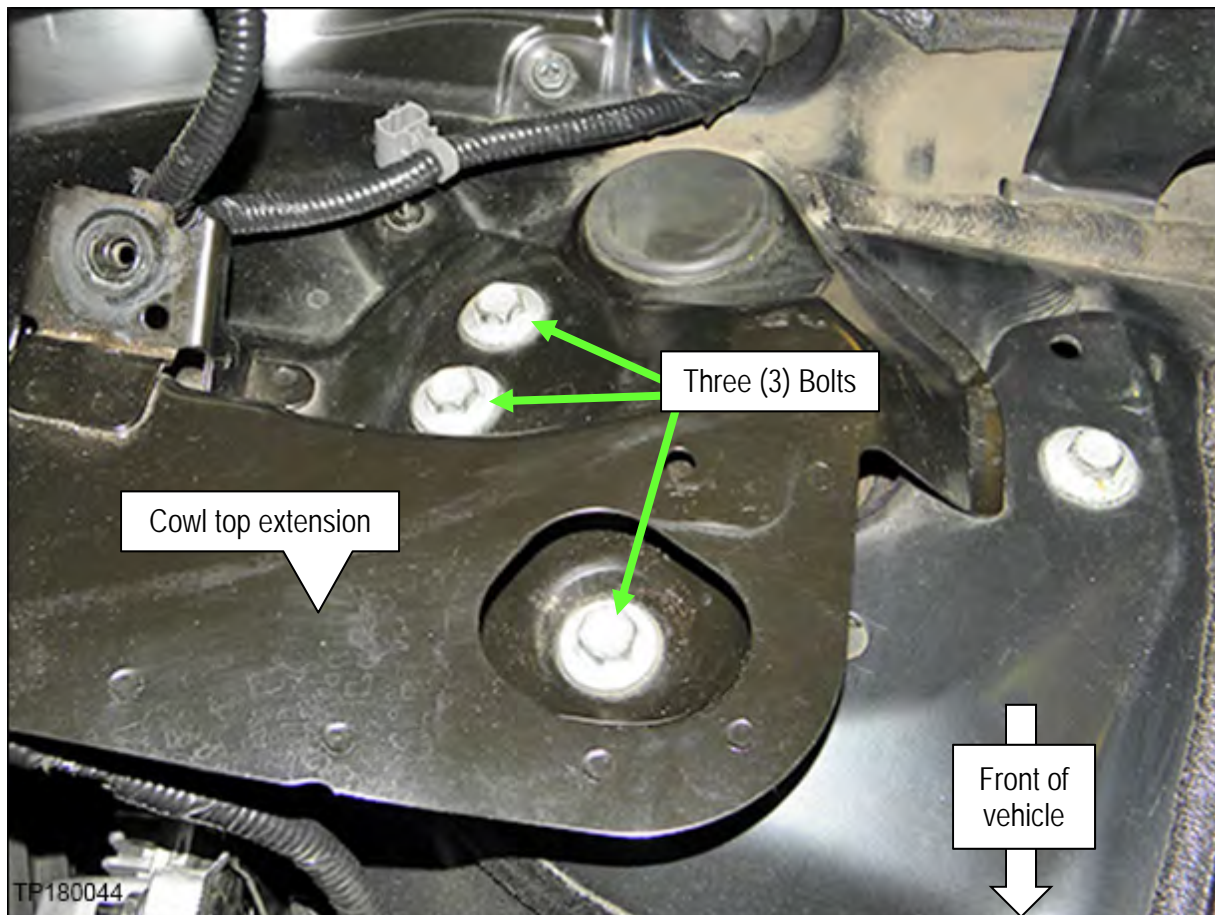

Figure 18
- b. Remove the six (6) bolts that attach the cowl top extension; three (3) at each end.
- Three (3) bolts shown in Figure 18 are on the driver's side. Three (3) bolts for passenger side are similar, but not shown.